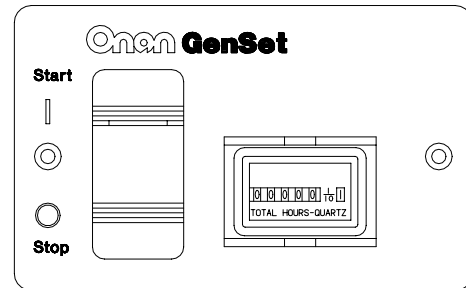

FIGURE 6. REMOTE SWITCH / HOUR METER
- Remote switch / status lamp and hour meter (Figure 6).